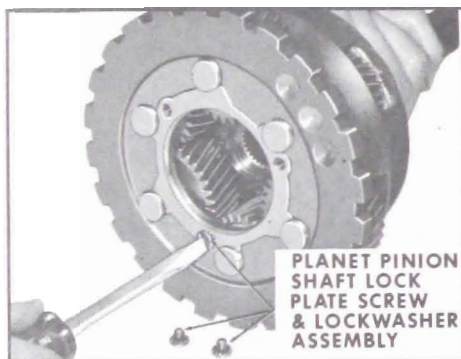

Figure 5-274
13. Install three (3) planet pinion shaft lock plate screw and lock washers. See Figure 5-274.